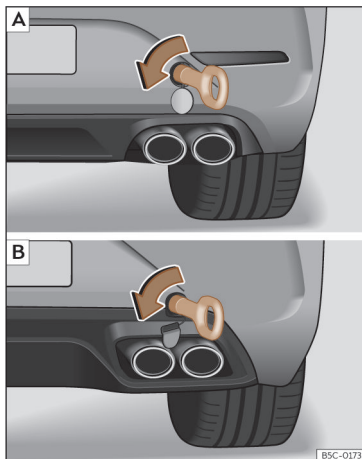

Fig. 51 On the right side of the rear bumper: towline anchorage in position. **[A]** Leon Sportstourer; **[B]** Leon.
- Screw the towing eye in the housing by turning it to the maximum **anticlockwise** >>> **Fig. 51** >>> ❶. Use a suitable object that can completely and securely tighten the towing eye in its housing.
❶ CAUTION